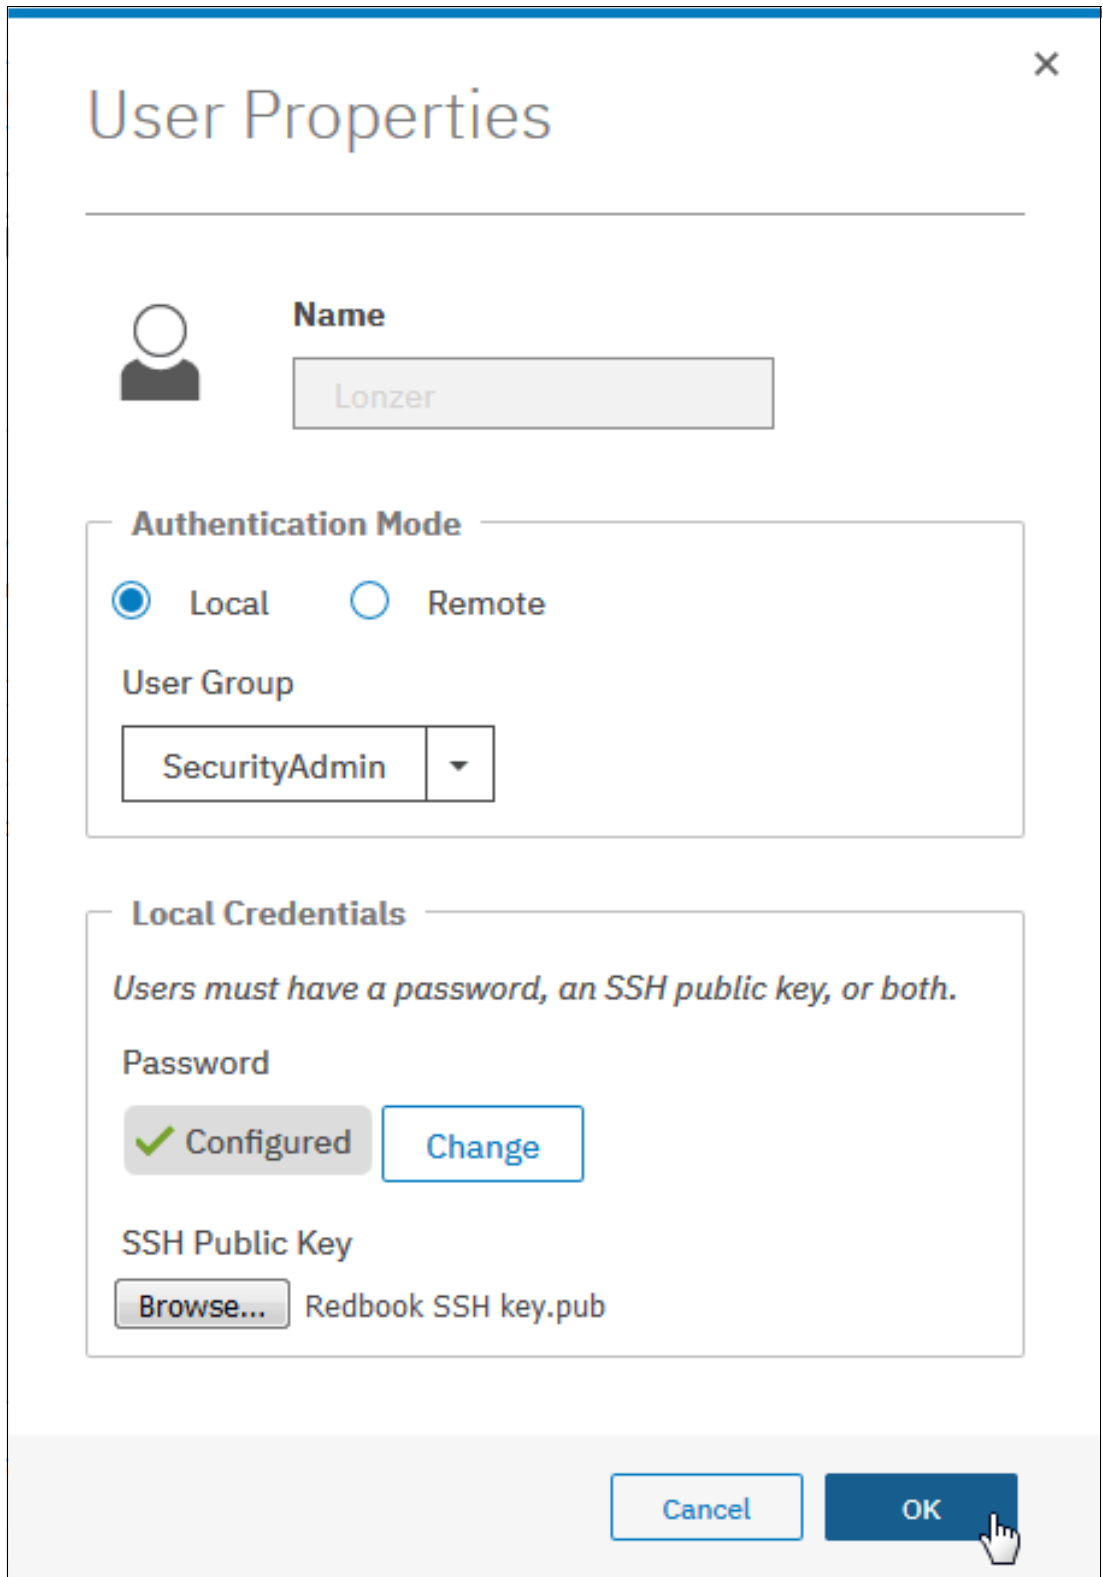

Figure A-11 Select the public key
5. Click **OK**, as shown in Figure A-11. The key is uploaded.